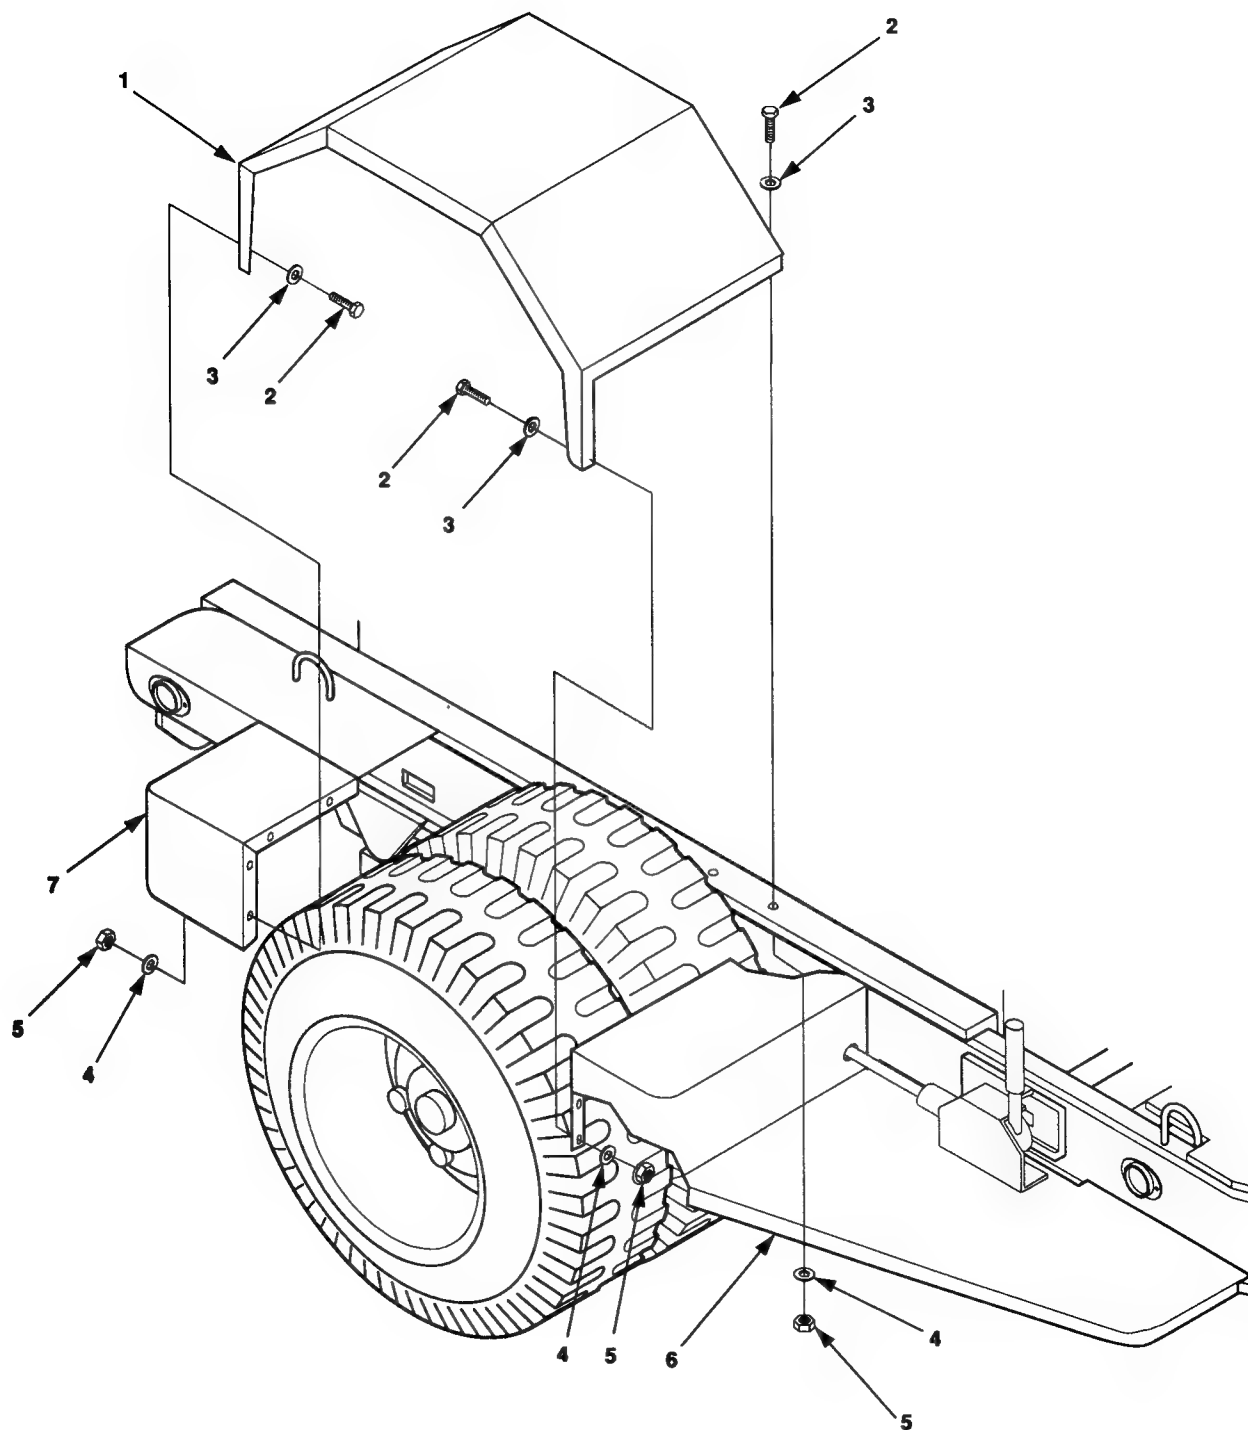

Figure 4-19. Fender Replacement
1. Remove seventeen self-locking nuts (5, figure 4-19), flat washers (4), bolts (2), and flat washers (3) securing fender (1) to trailer frame. Discard self-locking nuts.
2. Remove fender (1).